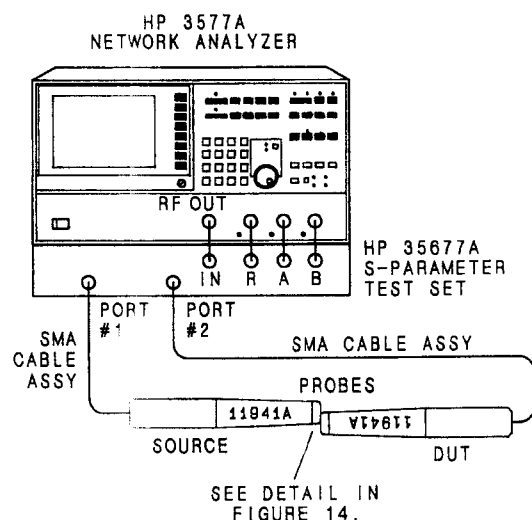

Figure 12. Insertion Loss Test Setup
The insertion loss test is a relative indicator of damage in the input circuitry. Using a second HP 11941A as a magnetic field source, this test selectively injects a magnetic field into each loop of the HP 11941A being tested. Damage is indicated by differences in the measured output voltages. It is important to orient the two probes properly as shown in figures 12 through 15. To facilitate testing, the source probe should be fixed in place, the tip flush with the work surface (preferably wooden). This can be accomplished with clamps or tape, which should be no closer than 50.8 mm (2 in.) to the source tip. Other test equipment may be substituted if it meets or exceeds the critical specifications for the instruments listed below. Throughout the test procedure, the probe being tested will be referred to as the DUT (Device Under Test).
1. Connect the equipment as shown in figure 12. Allow the HP 3577A 60 minutes of warm-up time.